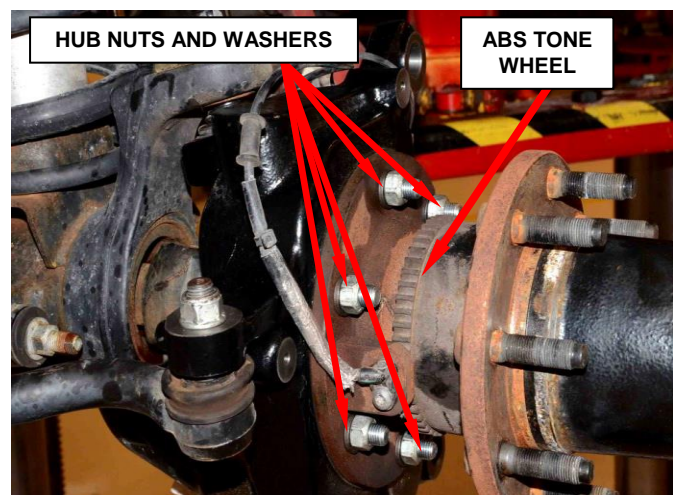

Figure 14 – Knuckle Assembly
26. Install the six **NEW** nuts and washers onto the hub studs (Figure 14).